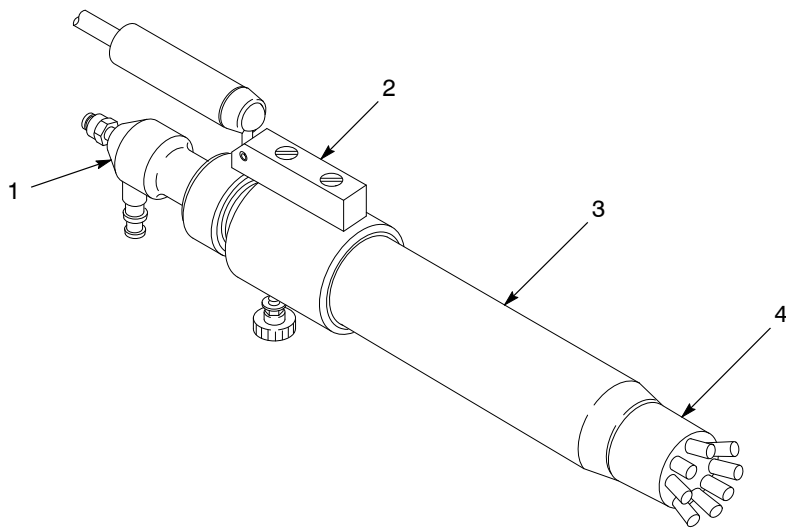

Figure 2-1 Tribomatic II Purgeable Automatic Powder Spray Gun
See Figure 2-1. The spray gun consists of a charge module (3), diffuser (1), in-line ball mount (2), and various optional sprayheads (4). The charge module and diffuser are threaded into the body so that all parts stay together under purge air pressure.